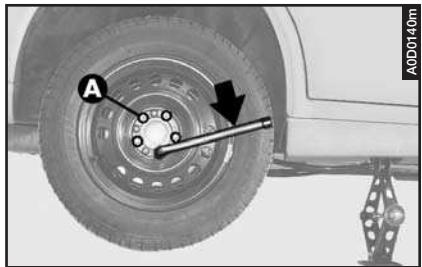

fig. 17
- Tighten the five fastening bolts (**A-fig. 17**).